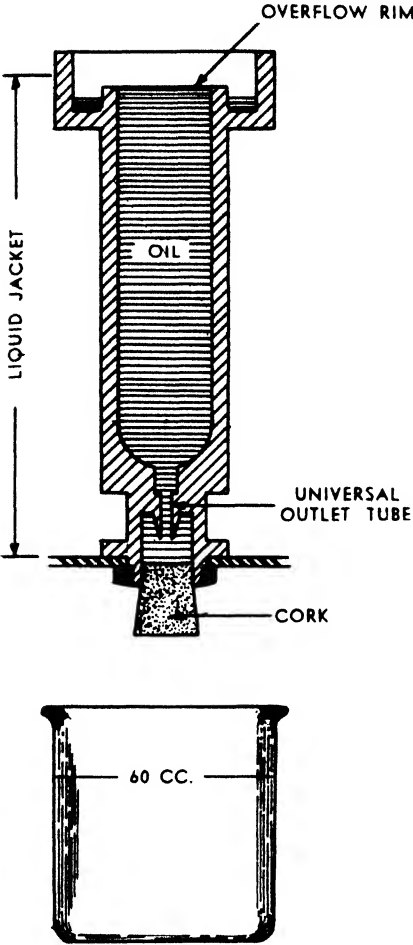

FIG. 169. VISCOSITY METER.
for classifying lubricating oil according to its viscosity. The Saybolt Universal Viscosimeter, Fig. 169, is used in making this classification. The method consists in timing the flow of two ounces of oil from an outlet tube of $\frac{1}{16}$ " diameter while the temperature is held constant. The S. A. E. numbers by which oil is designated and their corresponding Navy symbols are given in Table XL.
c) An Ostwald Viscosimeter is a very accurate means of measuring viscosity of oils. See Fig. 169. A known amount of oil is placed in the right hand side arm at (g) and is pulled up by suction into the left hand side at (a) until the level is above (c). With a stop watch, the time necessary for the liquid to flow back from (b) to (d) through the capillary tube (dc) is determined. The time required is compared with the time taken for water to flow through the tube. The viscosity of the oils is compared with water, as a standard liquid having a viscosity of 1.